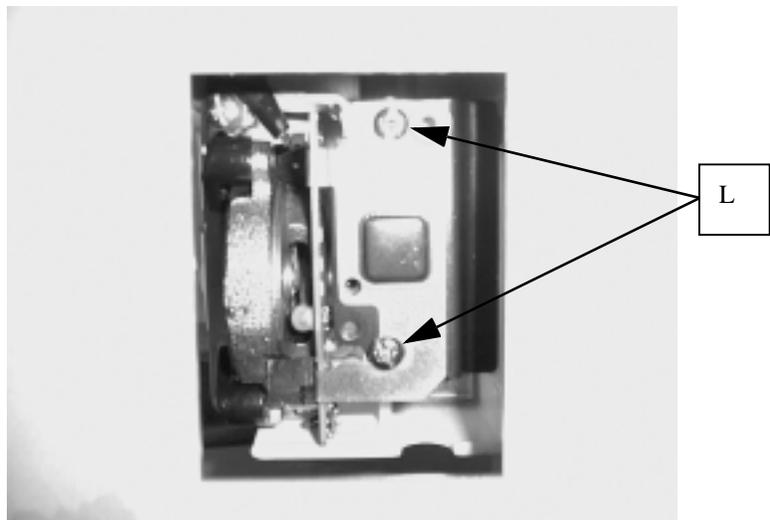

FIGURE 10-8
V. Remove nylon clip SL-3N and clip band, and remove 2 pan head screws(L), and replace S board. Fig 10-8.